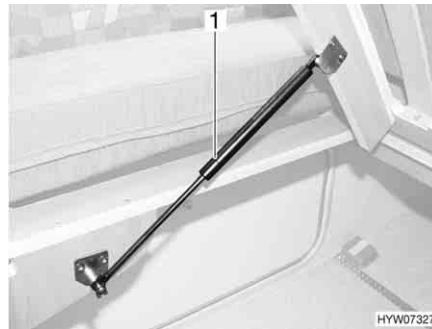

Fig. 97 Fixed bed
- Lift slatted frame. The gas-pressure springs (Fig. 97,1) hold the slatted frame open.